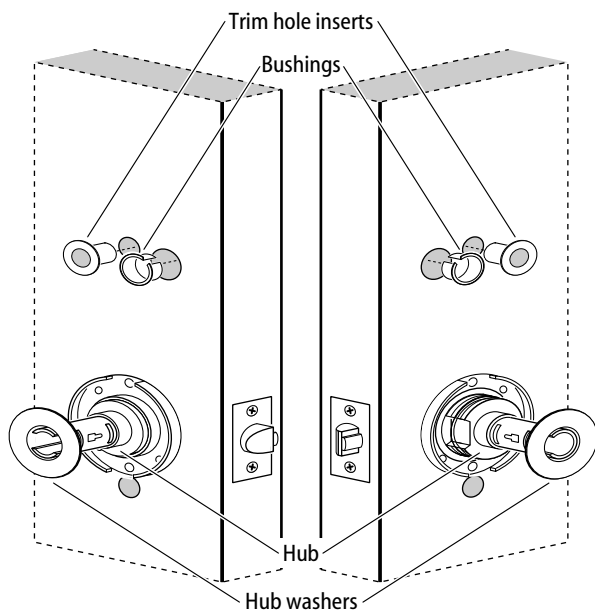

Figure 11 Installing the trim hole inserts, bushings, and hub washers
- 1 Insert the two trim hole inserts into the upper trim hole on each side of the door, as shown in Figure 11.
- 2 Insert the two bushings into the harness hole on each side of the door, as shown in Figure 11.